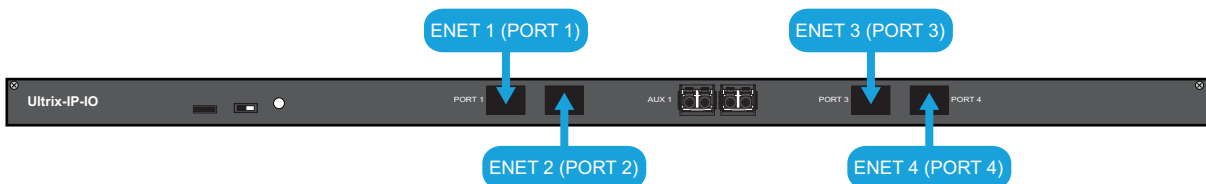
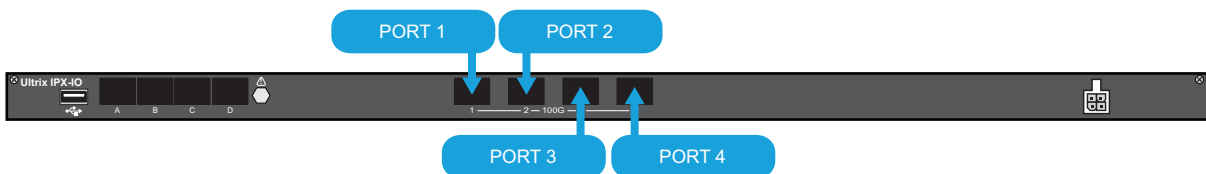

Figure 38 ULTRIX-IP-IO — Ports 1-4
Figure 39 ULTRIX-IPX-IO — Ports 1-4
3. Cable your port as required. (**Figure 38** or **Figure 39**)